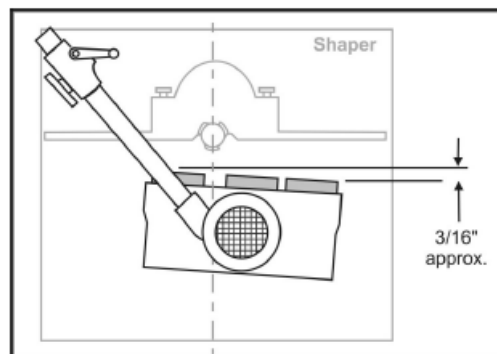

Figure 18
2. To ensure that the workpiece is held firmly against the fence, set the stock feeder at a slight angle toward the fence in the direction of feed. In other words, the outfeed roller should be approximately  $\frac{3}{16}$ " (5mm) closer to the fence than the infeed roller. See Figure 18.